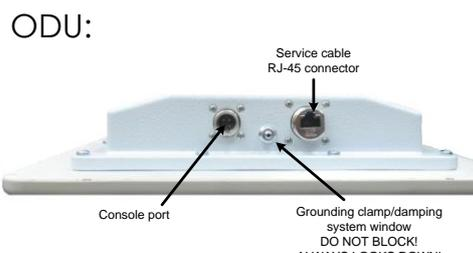

Figure 1. Outdoor Unit
1. Using Altai Console Cable please connect the unit's console port (see Fig. 1) to the COM-port of your PC/Laptop.